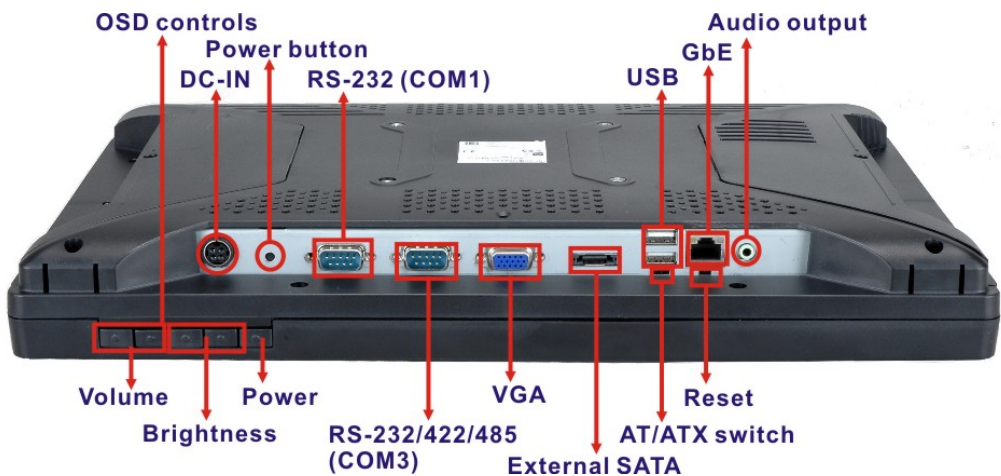

Figure 2-26: AFL2-W15A-N270 Bottom Panel
Step 1: Locate the DB-9 connector. The location of the DB-9 connector is shown in Figure 2-26.
Step 1: Located the USB connectors. The locations of the USB connectors are shown in **Figure 2-26**.
- Step 1:** **Locate the female DB-15 connector.** The location of the female DB-15 connector is shown in **Figure 2-26**.